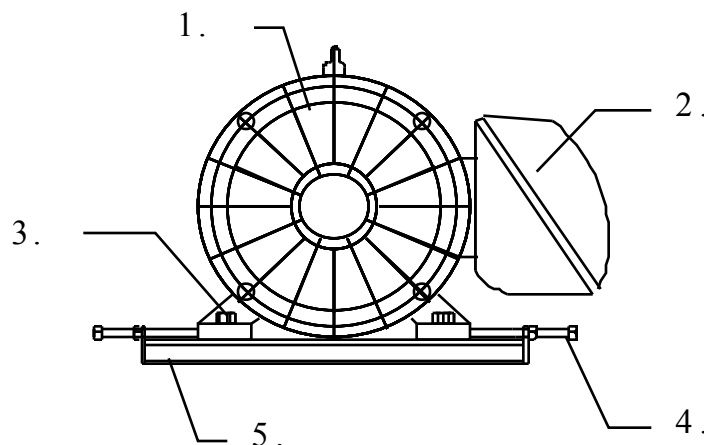

Figure 5.2 Motor adjustment
8. Apply anti-seize lubrication to the GRUB SCREWS (2) and insert into the BUSH and PULLEY assembly
11. Tighten the GRUB SCREWS (2) using a hexagonal wrench and the BUSH will grip the SHAFT
14. Refer to *figure 5.2* – Adjust the motor adjuster (4) until the BELTS are tight. It is recommended that a BELT tension checking tool be used to ensure correct tension. Check the alignment of the PULLEYS again with the straight edge. If the PULLEYS do not align then they will have to be adjusted until they do. Failure to do this will result in premature wear of the BELTS and PULLEYS.
1. Refer to *figure 5.2*. Loosen the MOTOR PIVOT adjuster (4) until the BELTS are loose enough to be removed